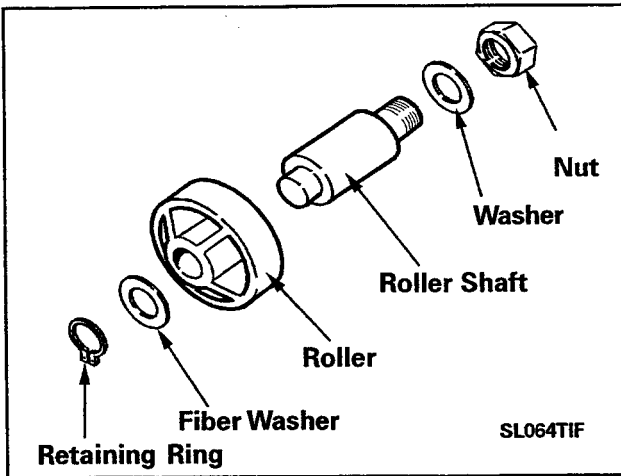

Figure 2-84
**NOTE:** *There is a spacer washer behind the roller. When replacing parts be certain of the order of the replacement (Figure 2-84).*